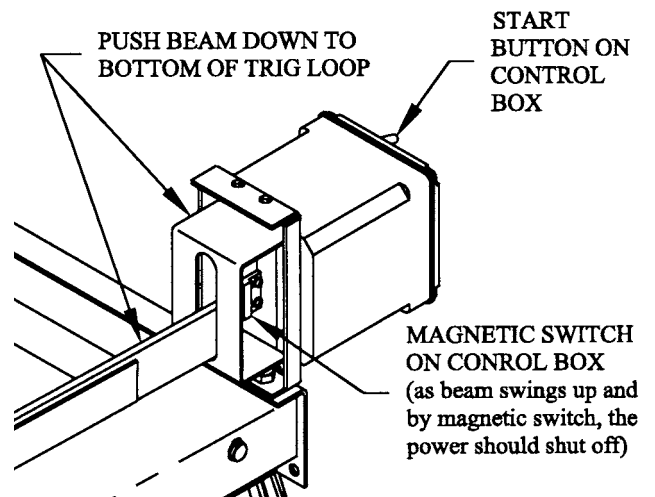

FIG. 24
STEP 18. Push beam down to bottom of trig loop. Start motor for the fill system (use start switch on control box). Test switch by lifting the beam. The motor for the fill system should cut off as the beam passes the magnetic switch on the control box. See Fig. 24.